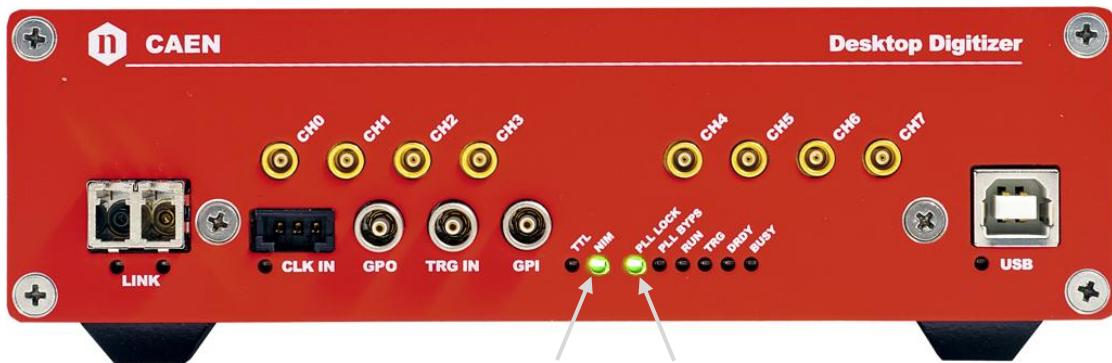

Fig. 12.1: Front panel LED status after power-on
- After power-on, only the NIM and PLL LOCK LEDs must be lit (see **Fig. 12.1**).
In the case of an upgrade failure (e.g. STD page is corrupted), users can try to reboot the board: after a power cycle, the system automatically programs the board from the alternative FLASH page (e.g. BKP page), if this is not corrupted as well (see Fig. 12.1). It is then possible to perform a further firmware upgrade to restore the corrupted page.
- If the LED status is compliant to Fig. 12.1, then the board is operative again